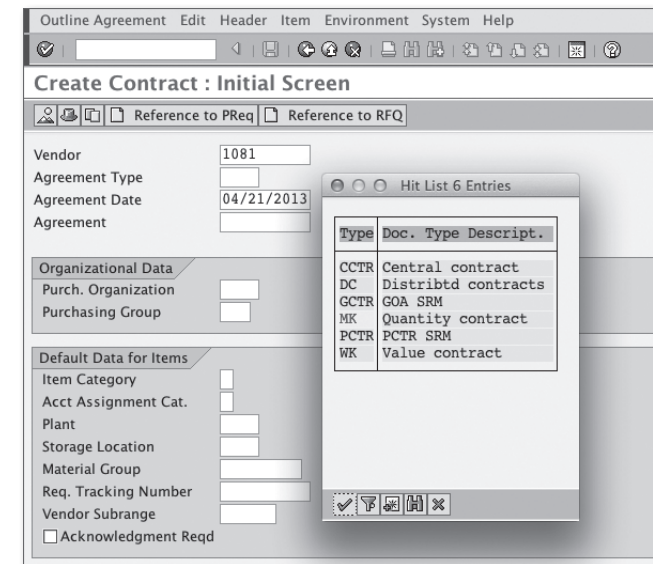

Figure 4.7 Selecting the Contract Type
You can create a contract either manually by typing all of the required data or by referencing other purchasing documents such as purchase requisitions, or RFQ/quotations. If you want to use a reference document, either click the REFERENCE TO PREQ button for a purchase requisition, or click the REFERENCE TO RFQ button for an RFQ (see Figure 4.7).
1. In the first screen of Transaction ME31K, select a vendor number, agreement type, purchase organization, and purchasing group at a minimum (see Figure 4.7). Press **Enter** to proceed to the header screen.